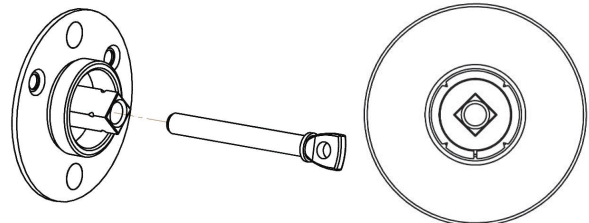

Figure 25
3. Insert outside spindle into lockbody and thread adjustment bolt into inside spindle. (Figure 25)